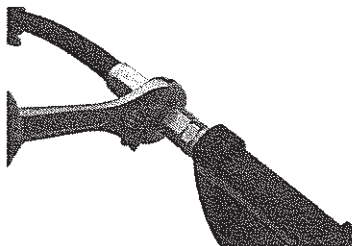

Figure 4: Use wrench to tighten
3. Tighten completely with an open ended, adjustable, wrench. See *Figure 4*.